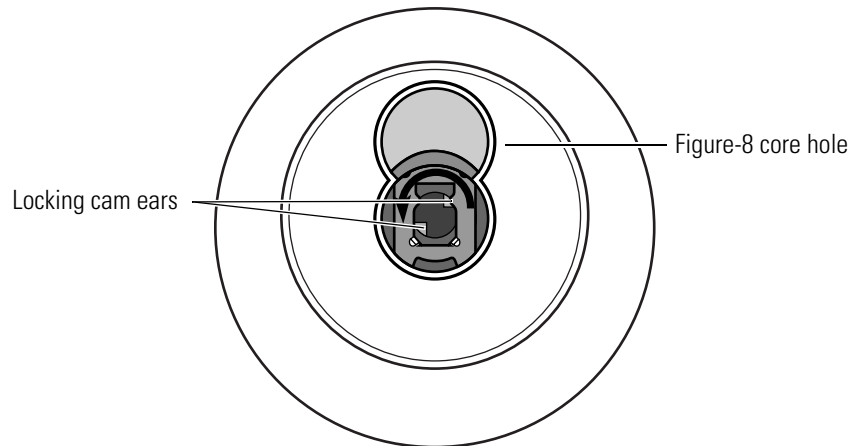

Figure 3.34 Correct position of the R, S, & T function locking cam
- Before you install the core and throw member, you can see that the locking cam is not positioned as shown in Figure 3.34. Perform the following steps to reposition the locking cam.
1. Be sure the locking cam, which engages the throw member, is rotated counterclockwise. Looking into the figure-8 core hole in the knob, turn the locking cam ears counterclockwise to match the position shown in Figure 3.34.